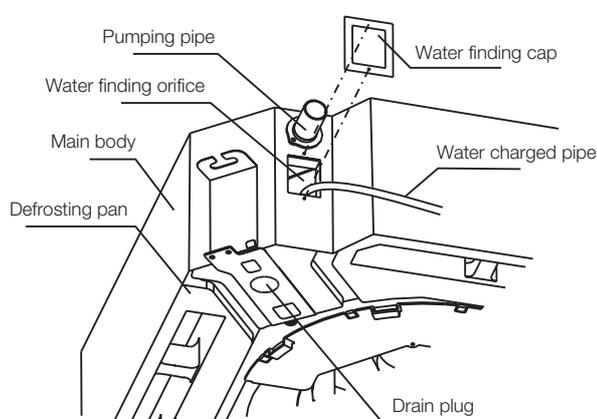

Fig. 5-3
- 1) Remove water finding cap, charge 2000ml water into defrosting pan through water finding orifice by water charged pipe. (See Fig.5-3)